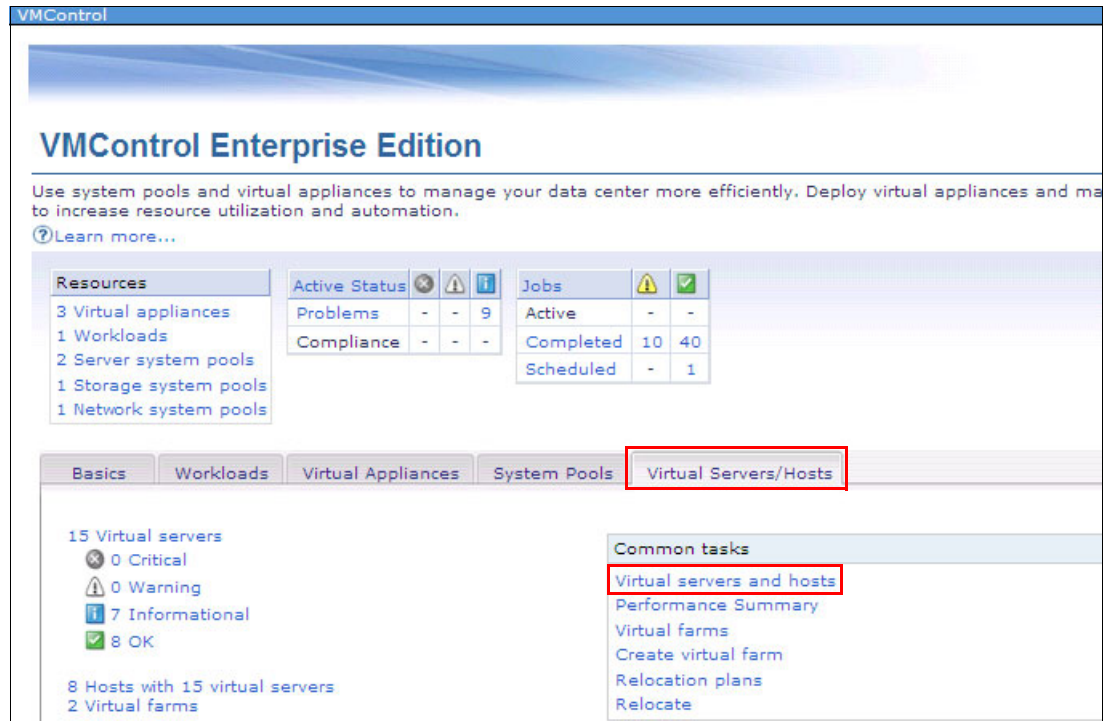

Figure 9-159 VMControl plug-in main page: Virtual Servers/Hosts tab
2. Click the **Virtual servers and hosts** link under the Common tasks, as shown in Figure 9-159.